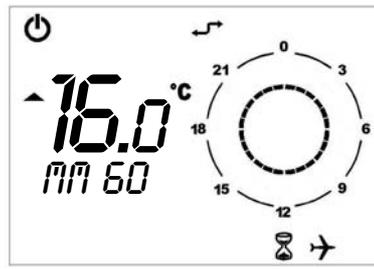

Figure 9 – Timed shut down mode
- **TIMED OFF (VACATION PROGRAM)** function: noted by the presence of both the hourglass and airplane icons (see Figure 9).
To activate the forced automatic function, just press the ▲  and ▼  buttons and set the desired temperature (in the example 20°C). Both the automatic and manual icons (see Figure 9) will appear on the display.
4. During the entire period, the time remaining for the timed function will be displayed (see Figure 9 on page 20).